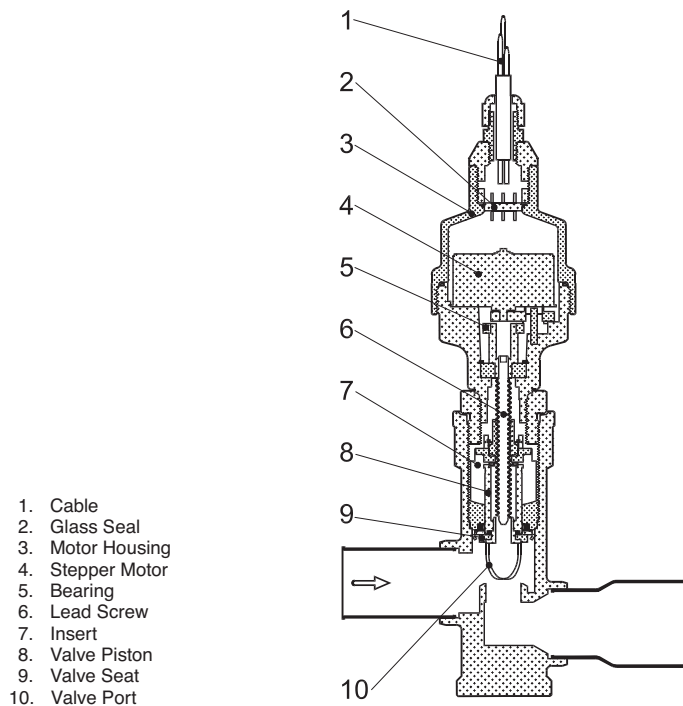

Fig. 22 — Cutaway View of the Electronic Expansion Valve
Electronic Expansion Valve (EXV) — See Fig. 22 for a cutaway view of the EXV. High-pressure liquid refrigerant enters valve through the top. As refrigerant passes through the orifice, pressure drops and refrigerant changes to a 2-phase condition (liquid and vapor). The electronic expansion valve operates through an electronically controlled activation of a stepper motor. The stepper motor stays in position, unless power pulses initiate the two discrete sets of motor stator windings for rotation in either direction. The direction depends on the phase relationship of the power pulses.
3. The expansion valve motor is hermetically sealed inside the top portion of the valve. See Fig. 22. Carefully unscrew the $1\frac{1}{16}$ in. (27 mm) retaining nut securing the motor portion to the body of the valve making sure the EXV plug is still connected. The EXV operator will come out with the motor portion of the device.
4. Enter the appropriate EXV test step under the (*Service Test* \rightarrow *QUIC*) sub-mode in the Service Test mode. Locate the desired item *Service Test* \rightarrow *QUIC* \rightarrow *EXV.A*, *Service Test* \rightarrow *QUIC* \rightarrow *EXV.B*, or *Service Test* \rightarrow *QUIC* \rightarrow *EXV.C*. Press **ENTER** twice to make the valve position of 0% flash. Press and hold \blacktriangle until 100% is displayed and press **ENTER**. Observe the operation of the lead screw. See Fig. 22. The motor should be turning, raising the operator closer to the motor. Motor actuator movement should be smooth and uniform from fully closed to fully open position. Press **ENTER** twice, use \blacktriangledown to select 0% and press **ENTER** again to check open to closed operation. If the valve is properly connected to the processor and receiving correct signals, yet does not operate as described above, the sealed motor portion of the valve should be replaced.